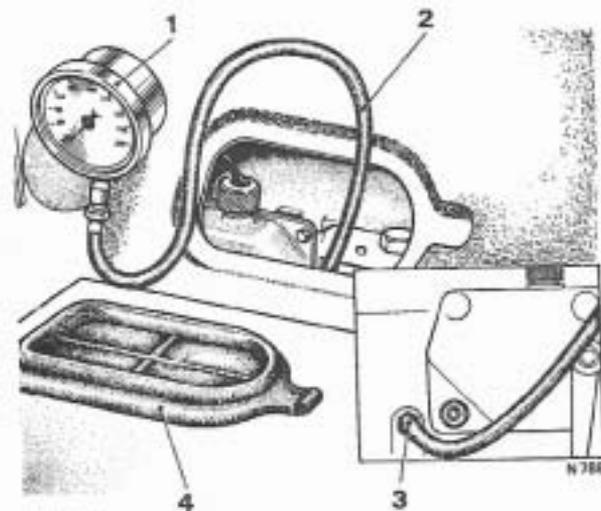

FIG. T133 CHECKING THE OIL PRESSURE
3. Screw a pressure gauge, 0 lb/sq.in. to 300 lb/sq.in. (0 kg/sq.cm. to 21,1 kg/sq.cm.) onto the adapter then position the gauge so that it can be seen from the driver's seat. This can be achieved by removing the carpet from the driver's side then removing the rubber plug from the side of the transmission tunnel. Run the gauge pipe through the hole then couple it to the adapter (see Fig. T133). Ensure that the gauge pipe does not interfere with the gear-change linkage.